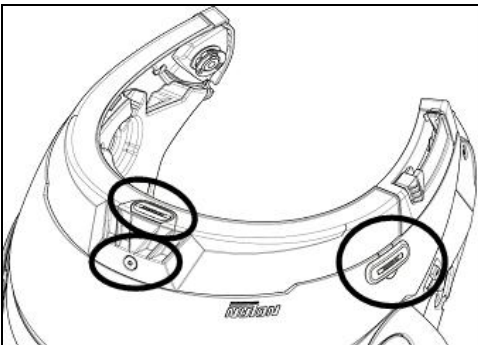

Fig. 2
- Remove the helmet edge gasket using the special tool (Fig. 2).
- Remove the "N-Com" plugs found at the back of the shell gasket and on the left side of the helmet (Fig. 2).